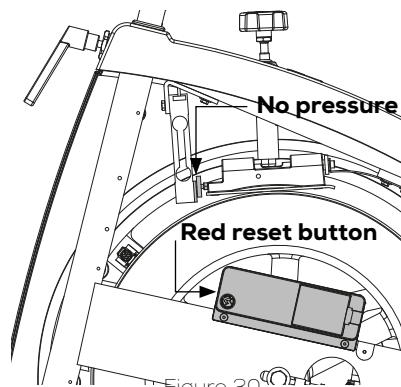

Figure 30
6) Reset the load cell by pressing the red reset button on the control box, see figure 30. Make sure nothing is pressing on the load cell when resetting. Lastly remount the service hatch.